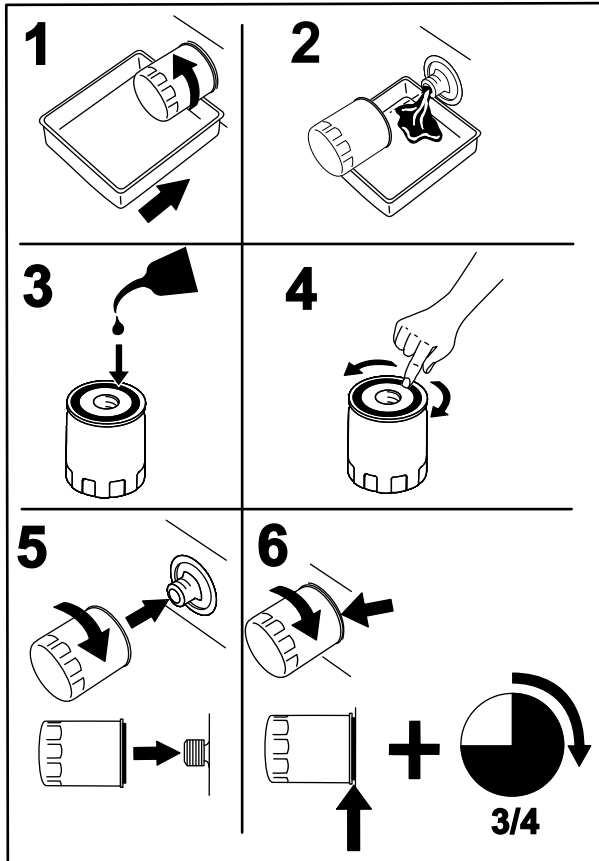

Figure 35
2. Change the engine oil filter (Figure 35).